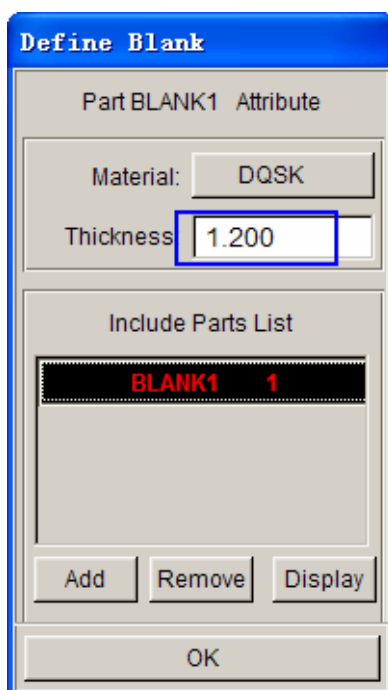

Figure 4.34: Define Blank dialog box
- 9) In this example, the thickness of the first sheet metal is 1.2 mm, so enter 1.2 in the input box behind Thickness. See figure 4.34.